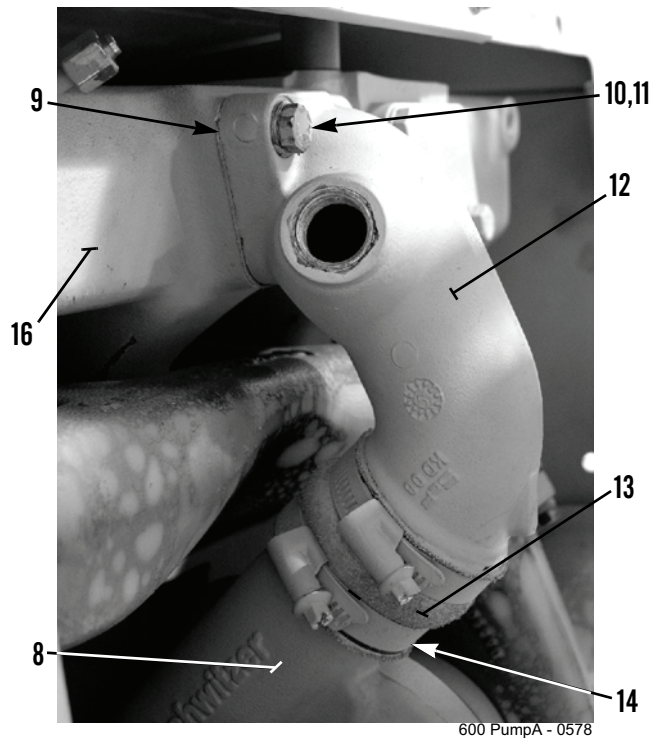

Figure 2. Manifold Pipe.
3. Loosen bottom clamp (Figure 2, Item 14) on sleeve (Figure 2, Item 13).
4. Remove two bolts (Figure 2, Item 10), washers (Figure 2, Item 11), gasket (Figure 2, Item 9), manifold pipe (Figure 2, Item 12), and sleeve (Figure 2, Item 13) from intake manifold (Figure 2, Item 15) and turbocharger (Figure 2, Item 8). Discard gasket.